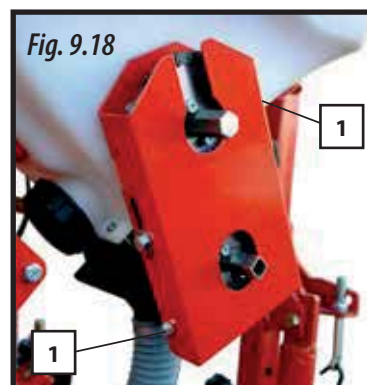

Fig. 9.18
- 1- Remove the securing screws (1, Fig. 9.18) to remove the lids.